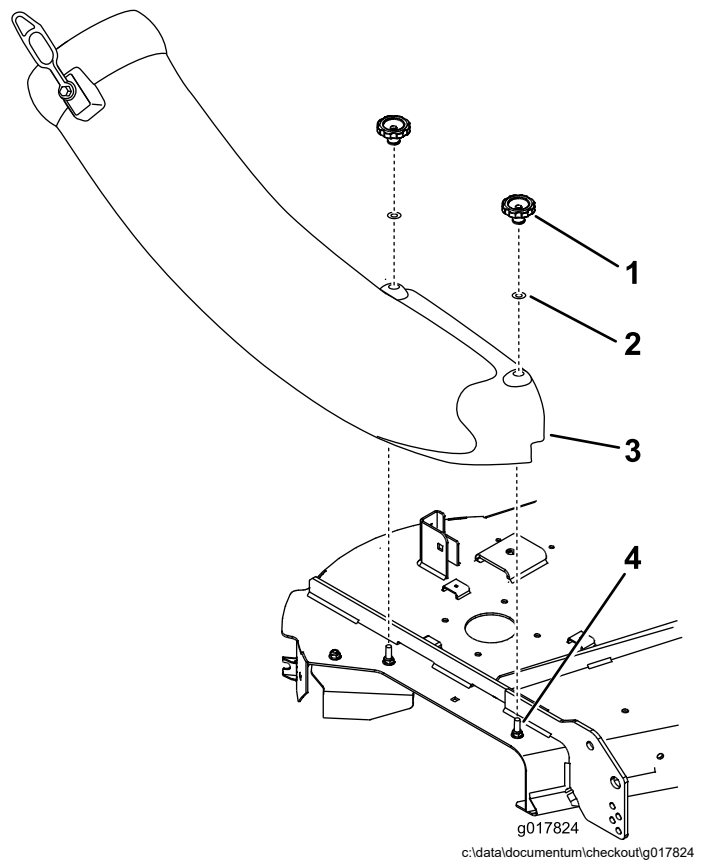

Figure 26
4. Align the hole in the chute and install it onto the bolt. Secure the chute to the mower deck with the knob and flat washer (5/16 inch) as shown in Figure 26.